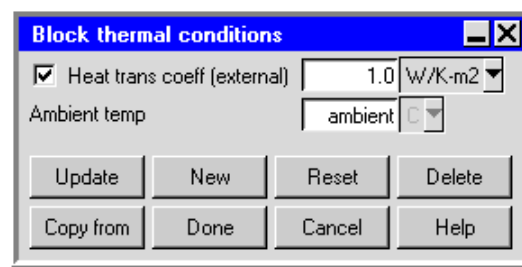

Figure 8.6.5: The **Block thermal conditions** Panel for a Solid or Fluid Block
4. (optional) Specify external heat transfer parameters for the block by turning on the **External conditions** option under **External data**. Click the **Edit** button to open the **Block thermal conditions** panel (Figure 8.6.5).